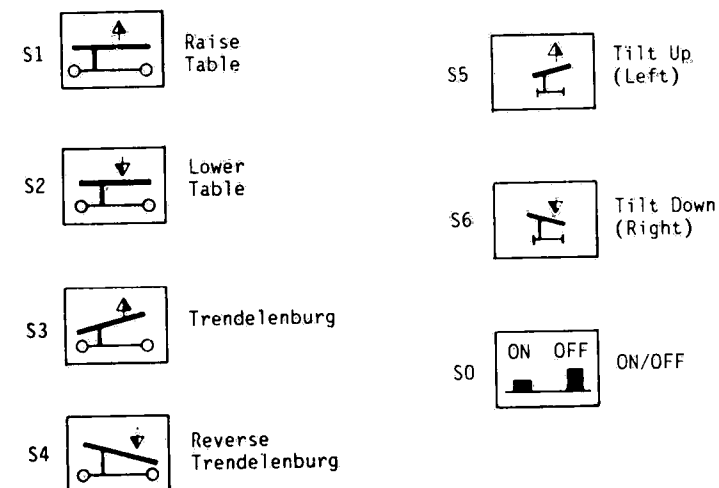

Figure 2-3. REMOTE CONTROL
2.2.1 CONTROLS (SEE FIGURE 2-3)